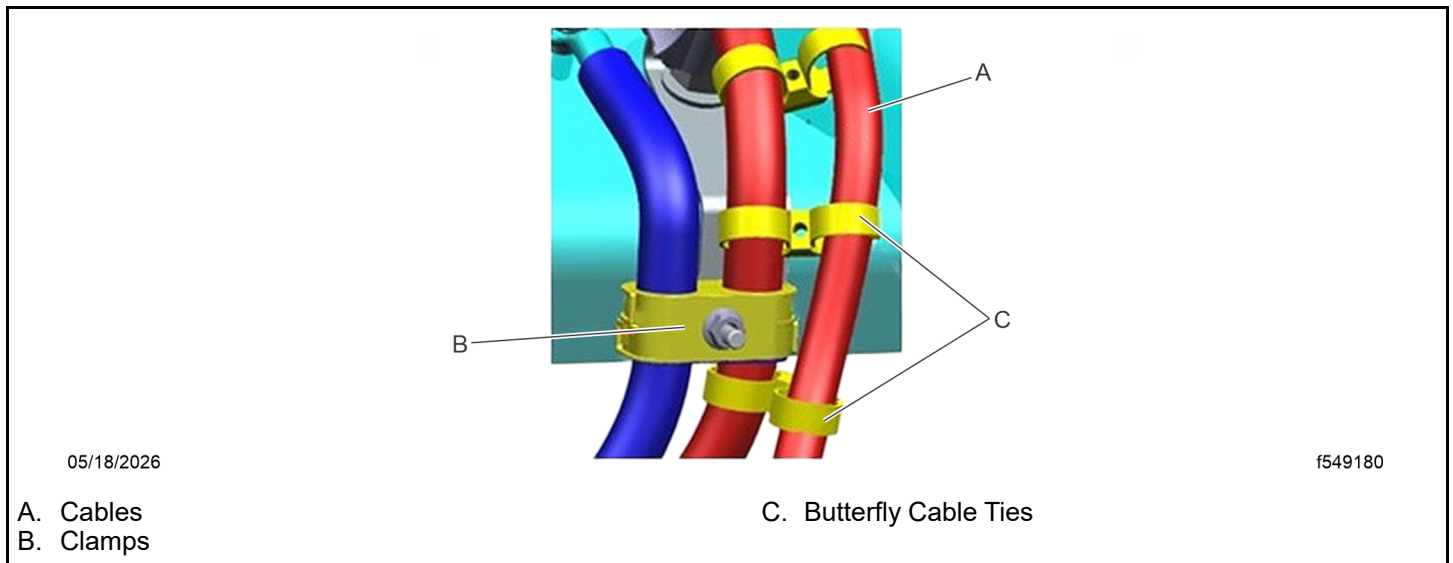

Fig 114, Butterfly Cable Ties Around the Cable Clamps
41. Install the upper and lower cable clamps on the isolator frame bracket. To prevent cables (A) from rubbing, secure any cables routed on the outside cable clamps (B) using butterfly cable ties (C) (TYCDCT110HIR). See Fig. **Fig. 114**.